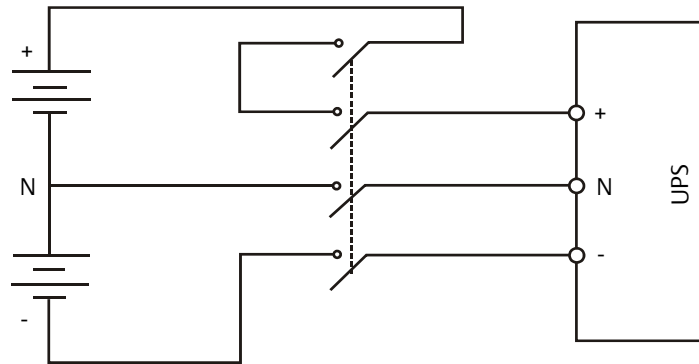

Figure 6-4 Connections between battery, BCB and UPS (3 wire at battery side, battery consisting of 36 to 40 cells)
2. If the external battery is configured to use CT wiring (that is, three wires will be led out from the battery side), it is recommended to use a 4P DC MCCB, with DC rated voltage of the breaker meeting 1-pole 250Vdc, 2-pole 500Vdc, 3-pole 750Vdc, and rated breaking capacity limit being 35kA. If the battery cell number ranges from 36 to 40, refer to Figure 6-4 for the connections between the battery, BCB and UPS.